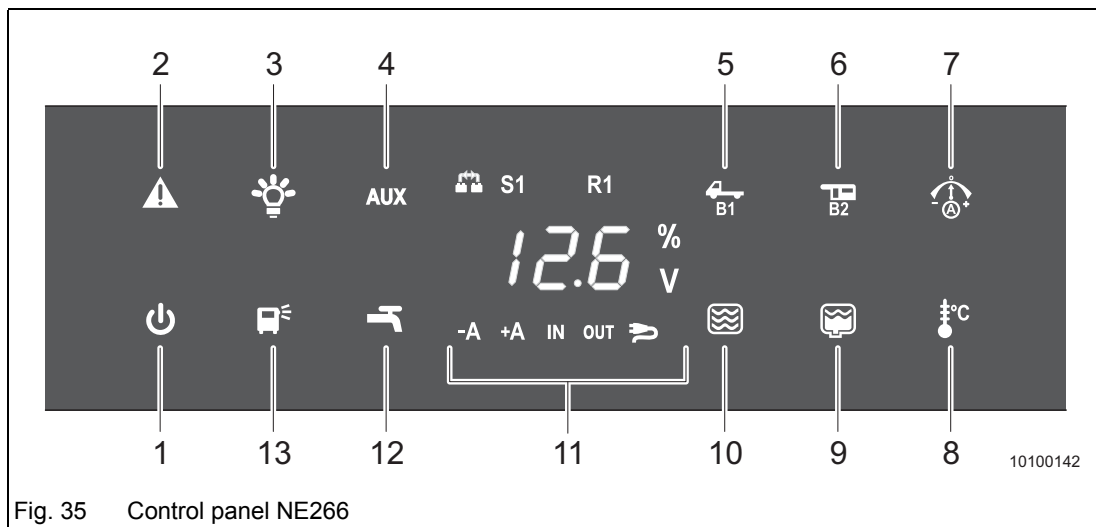

Fig. 35 Control panel NE266
- ➔ Touch sensor "Off/On" (Fig. 35/1) to switch the control panel off.
- ➔ Touch sensor "Interior lighting" (Fig. 35/3) to switch the interior lighting on or off.
- ➔ Touch sensor "Exterior lighting" (Fig. 35/13) to switch the exterior lighting on or off.
- ➔ Touch sensor "AUX" (Fig. 35/4) to switch AUX on or off.
- ➔ Touch sensor "Pump" (Fig. 35/12) to switch the pump on or off.
- ➔ Touch sensor "Starter battery B1" (Fig. 35/5) once to show the voltage of the starter battery (B1) on the display (Fig. 35/11).
- ➔ Touch sensor "Service battery B2" (Fig. 35/6) once to show the voltage of the service battery (B2) on the display (Fig. 35/11).
- ➔ Touch sensor "Charge/discharge service battery" (Fig. 35/7).
If the battery is being charged, "+A" is shown on the display (Fig. 35/11). If the battery is being discharged, "-A" is shown on the display.
- ➔ Touch sensor "Fresh water tank" (Fig. 35/10) to show the level of the fresh water tank (S1) as a percentage on the display (Fig. 35/11) (0 %, 25 %, 50 %, 75 %, 100 %).
When the fresh water tank is empty, the indicator blinks on the display (Fig. 35/11). If the tank connection is faulty, " - - -" is shown on the display.
- ➔ Touch sensor "Waste water tank" (Fig. 35/9) to show the level of the waste water tank (R1) as a percentage on the display (Fig. 35/11) (0 %, 25 %, 50 %, 75 %, 100 %).
When the waste water tank is full, the indicator blinks on the display (Fig. 35/11). If the tank connection is faulty, " - - -" is shown on the display.
- ➔ Touch sensor "Temperature display" (Fig. 35/8) once to show the interior temperature on the display (Fig. 35/11).
- ➔ Touch sensor "Temperature display" (Fig. 35/8) twice to show the exterior temperature on the display (Fig. 35/11).
Display "Malfunction" (Fig. 35/2) goes on when a fault occurs.
An error code is shown on the display (Fig. 35/11):
The following functions can only be used when the interior lighting on the control panel (Fig. 35/3) is switched on.